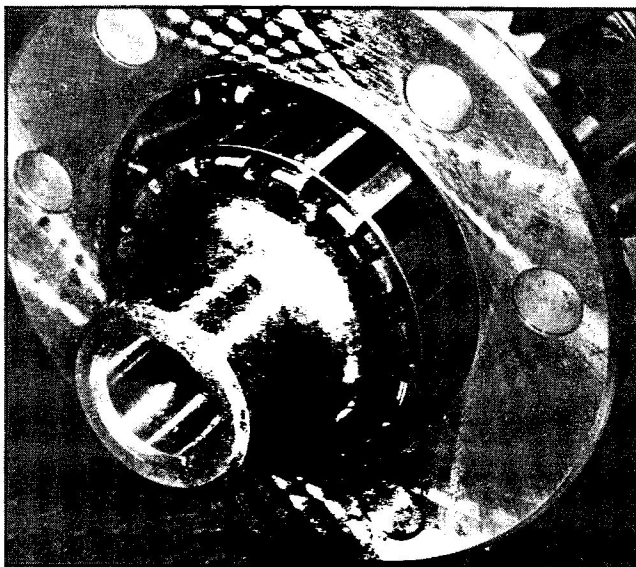

Fig. 73 Assemble Carrier and Output Shaft
2. Install snap ring in front groove of output shaft, install carrier over splines of shaft and install snap ring in rear groove of shaft to retain carrier, (Fig. 73). The carrier and shaft splines will assemble in one position only.